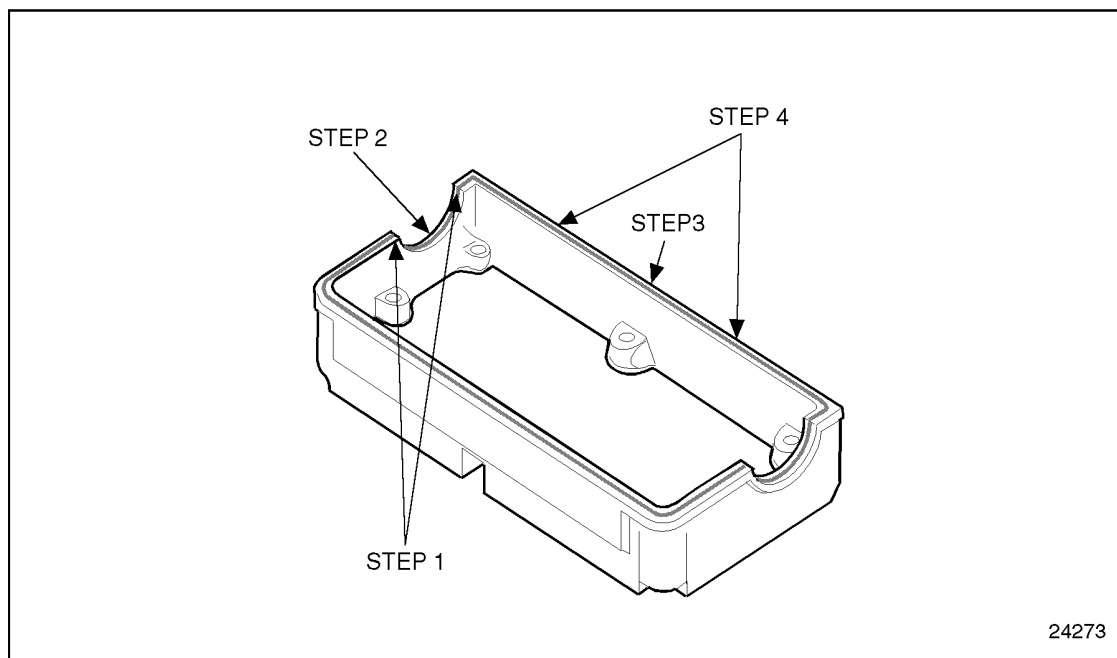

Figure 1-102 Rocker Cover Gasket Installation
2. Install the cam cap section, starting in the center, by pushing the seal into the groove at the top of the arch. Then install each section at its halfway point. Seat the gasket completely around the arch. Be sure the corners are still firmly seated after the arch is completed. They should present a square corner parallel to the rocker cover rail. Repeat this procedure for the cam cap section on the other end. See Figure 1-102.